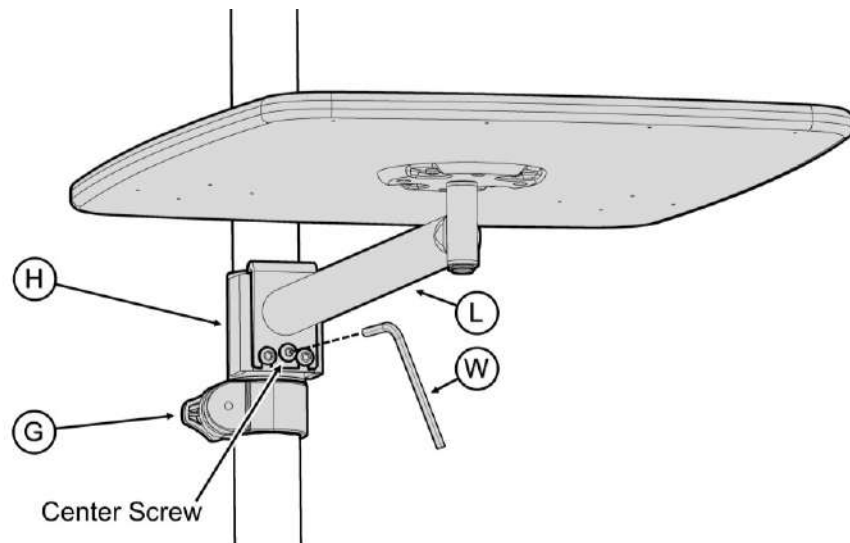

FIGURE 9
9. Use Center Screw on **L** to level tray. Once level, firmly tighten two outer screws on **H** to lock in place. *FIGURE 9*